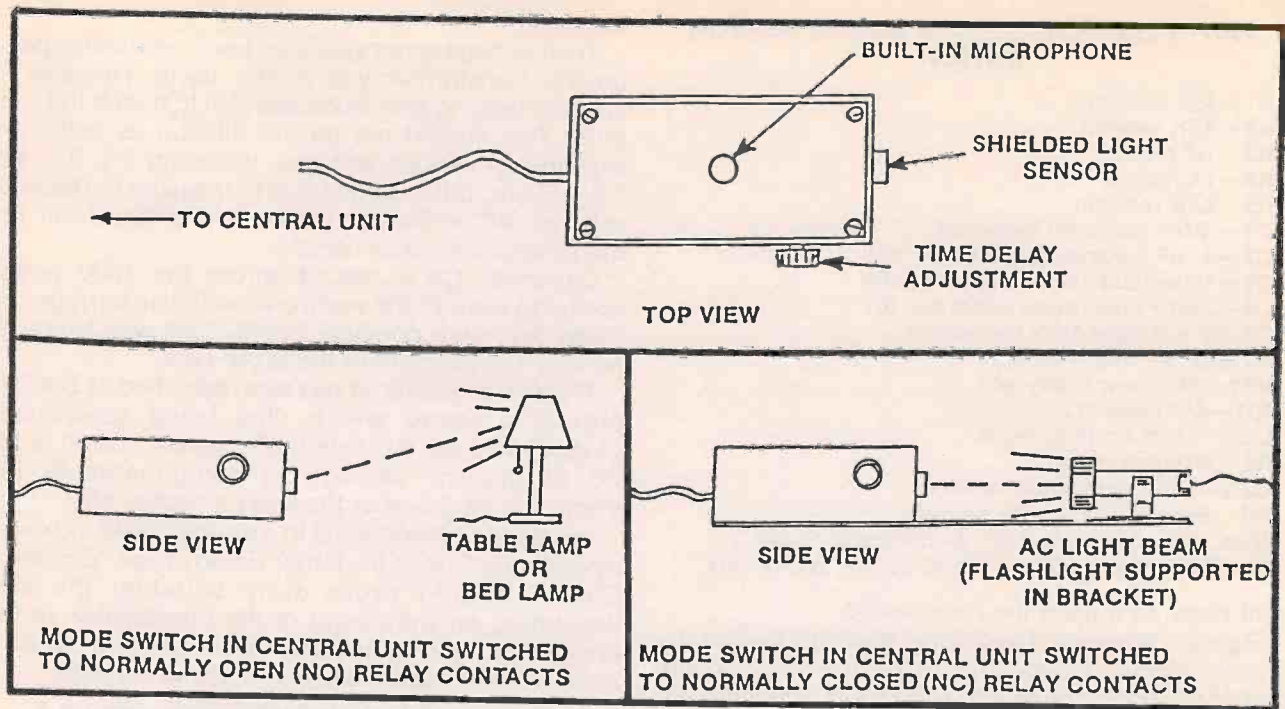

Figure 3. Three methods of operating the sound and light sensor switch
The first switch to be discussed in general terms is the Sound and Light Sensor Switch. Figure 3
3. With the mode switch in the Central Unit switched to "NC relay contacts" and the modified flashlight set up as shown in Figure 3, the user activates the switch by breaking the light beam with any part of the body (arm, leg, foot, etc.). The timer setting is applied in a similar manner to the procedure described in Note 2. When the timer setting is at a minimum, the unit can be operated as an on/off switch by continually obstructing the light beam to hold it on, and removing the obstruction to turn it off. Alternatively, with the timer setting at maximum or somewhere in between, the user can briefly break the